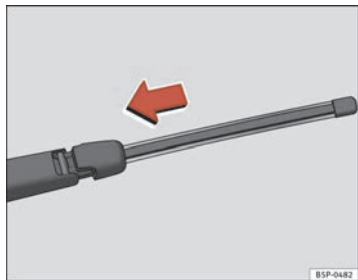

Fig. 171 Mount rear window wiper blade
- Place the blade as shown in the ⇒ page 238, fig. 171 and slide the adapter along until it fits into place.